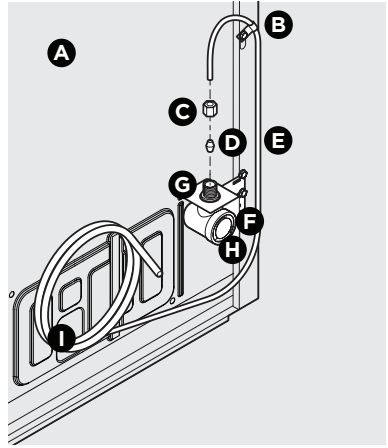
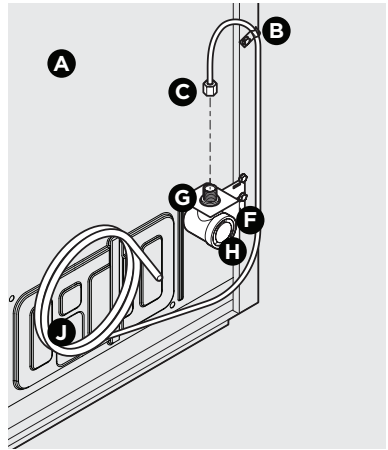

Figure 1
Figure 2
4. If you use **copper tubing** - Slide the brass compression nut and then the ferrule (sleeve) onto the water supply line. Push the water supply line into the water valve inlet as far as it will go ( $\frac{1}{4}$ "/6,4 mm). Slide the ferrule (sleeve) into the valve inlet and finger tighten the compression nut onto the valve. Tighten another half turn with a wrench; DO NOT overtighten. See Figure 1.
If you use **braided flexible stainless steel tubing** - The nut is already assembled on the tubing. Slide the nut onto the valve inlet and finger tighten the nut onto the valve. Tighten another half turn with a wrench; DO NOT overtighten. See Figure 2.
B	Steel Clamp (Fig. 1: $\frac{1}{4}$ "; Fig. 2: $\frac{1}{2}$ " )